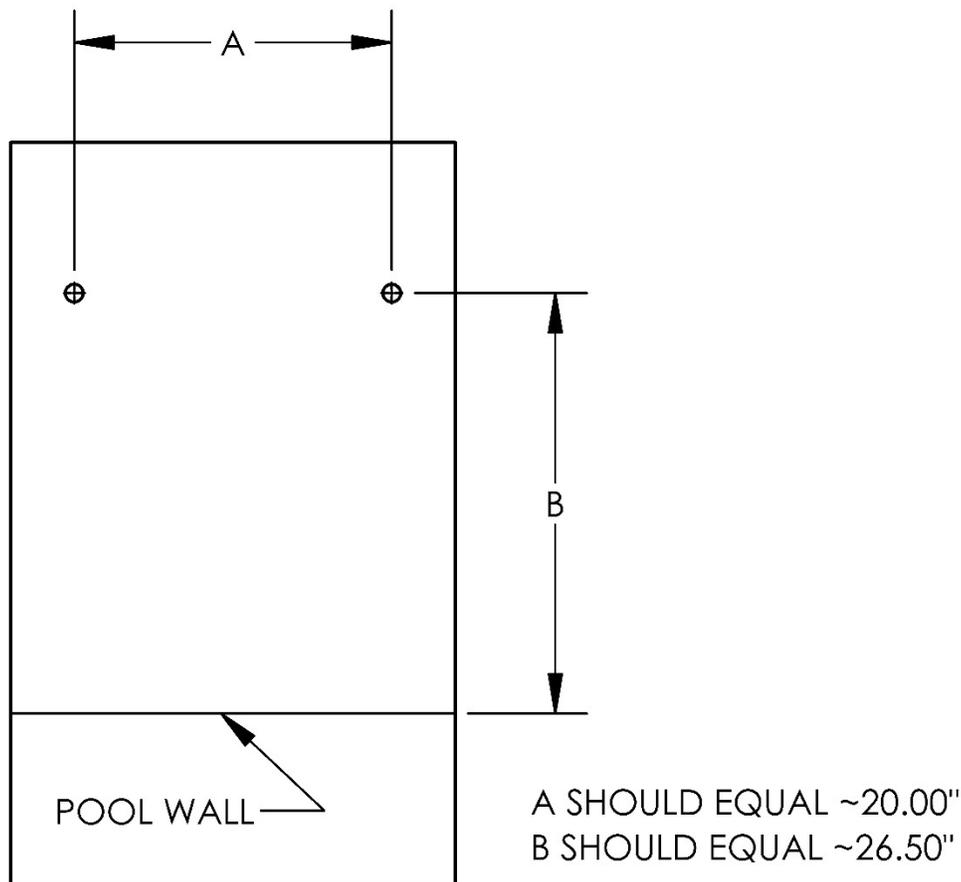

FIGURE 3
3. Before Placing your new Velocity VR next to the existing anchors confirm the center-to-center measurement (Dimension A) of the anchors and set back (Dimension B). **See Figure 3. This must be done for every individual Velocity VR being installed.**